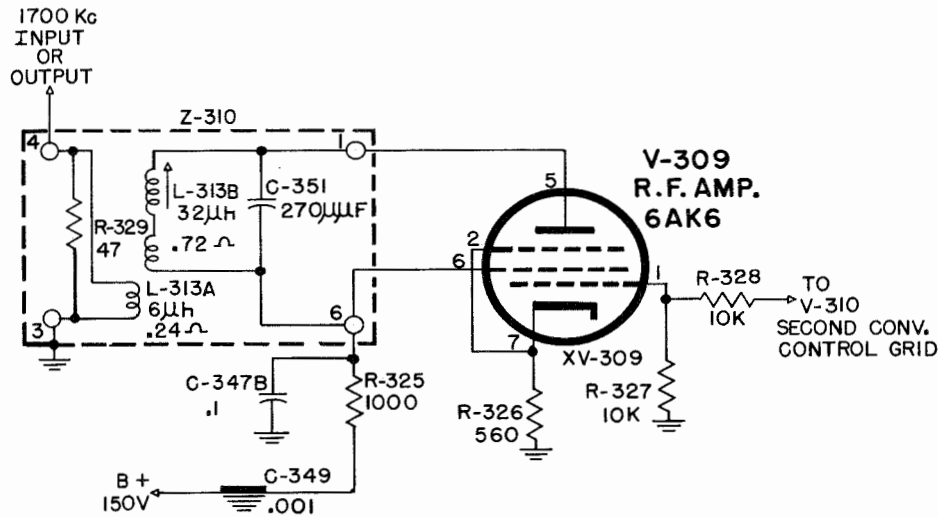

Figure 2-13. R.F. Amplifier V-309, Simplified Schematic Diagram
R.F. Amplifier V-309, a type 6AK6 tube, amplifies the 1700-kilocycle output of the second conversion oscillator for application to a remote circuit. (See Figure 2-13). The 1700-kilocycle output of Z-309 is capacitively coupled to the grid of V-309 through C-352. Resistors R-328 and R-327 are used as a voltage divider network to determine the amount of input signal to the grid of V-309. Cathode bias is developed across resistor R-326. Plate voltage is supplied from the voltage regulator through resistor R-325 bypassed by capacitor C-347B. Resistor R-329 is used as a terminating load across inductance L-313A. The 1700-kilocycle signal is link coupled through inductance L-313A to J-306 for external use.